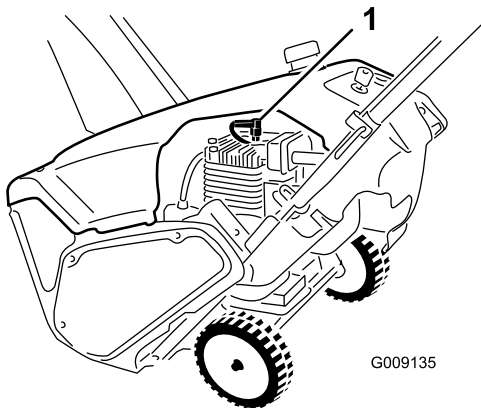

Figure 30
5. Disconnect the wire from the spark plug (Figure 30).